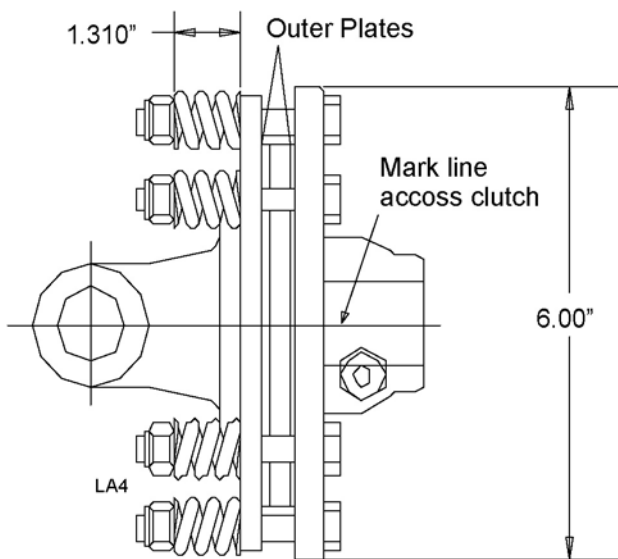

Figure 11. Slip Clutch Adjustment
3. Mark outer plates of slip-disc clutch as shown in Figure 11.